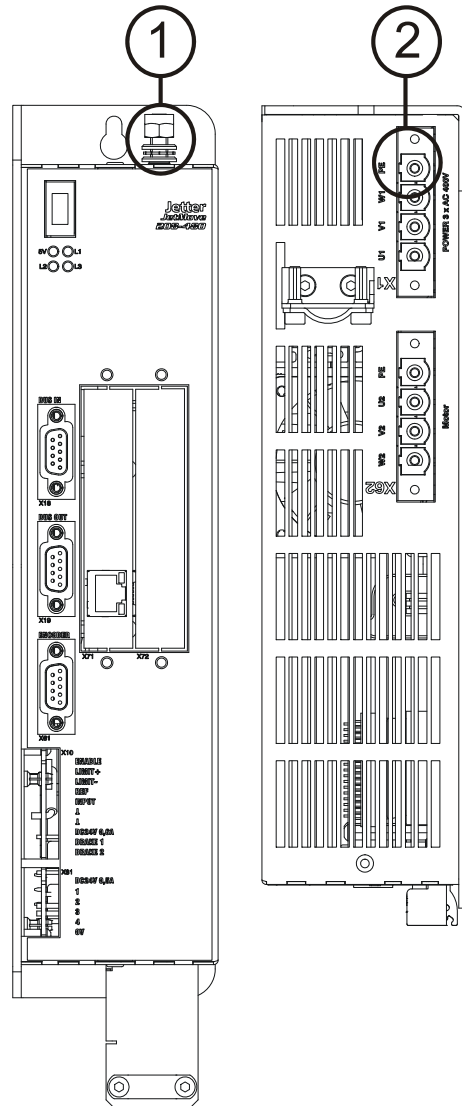

Fig. 1: Double earthing
- Connect the protective earth bus to the PE (GND) bolt (1) located at the top side of the rack as well as to the PE (GND) terminal X1 (2) (please refer to fig. 1).
- Connect the earth to the cover. For this, please refer to fig. 1 on page 16.